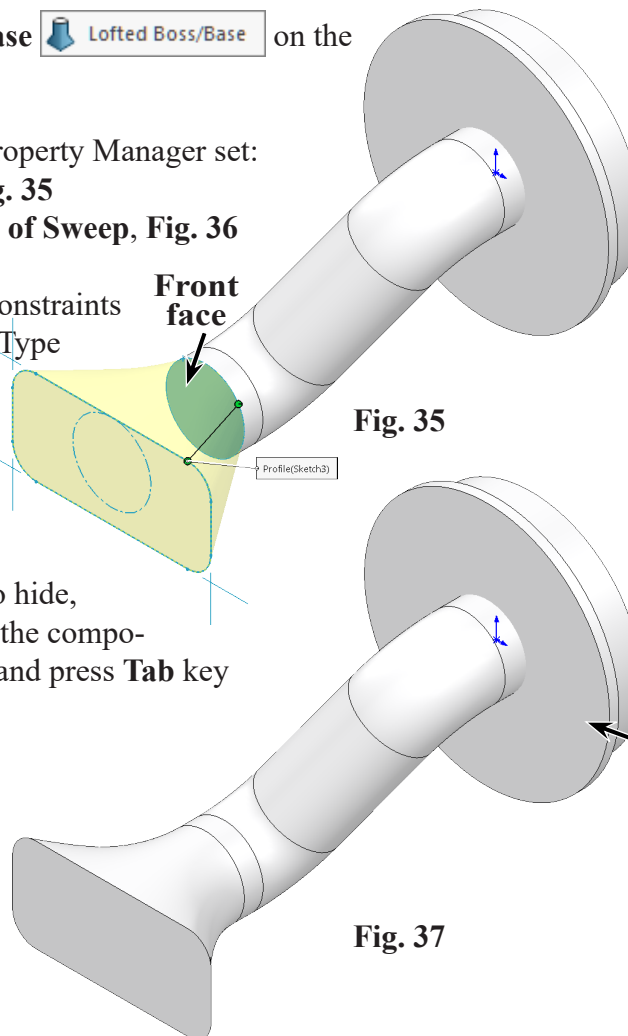

Fig. 37
Step 5. **Hide Boss-Extrude2**  **body**, **Fig. 37**. To hide, move the cursor over the component in graphics area and press **Tab** key to hide.